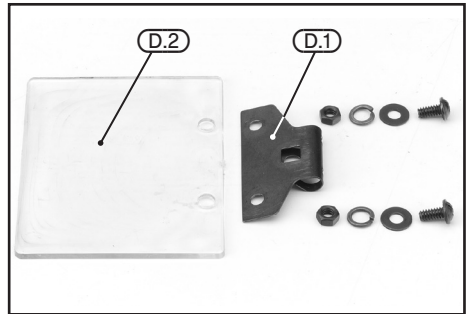

FIG.4
8.5 ATTACHING THE EYE SHIELDS – FIG.4
- Attach the eye shields using the fittings from group (D) shown in 7.2 WHAT'S IN THE BOX section on page 12.
- Place the eye shield frame (D.1) over the eye shield (D.2). Fasten the two parts together using the long screws, washers and nuts, as shown in Fig.4. **Note:** Do not overtighten as the eye shield may crack.